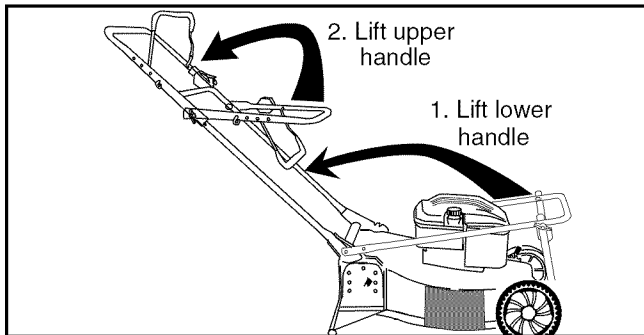

Figure 1
- Raise the lower handle, as shown in Figure 1 (Step1), until it snaps into place. Lift up and pull back on the upper handle to raise the handle into the operating position (Step 2). See Figure 1. Make certain the lower handle is seated securely into the handle bracket assemblies.